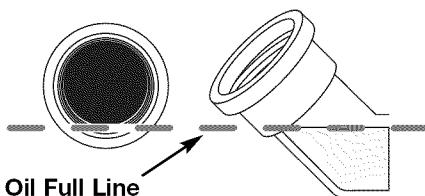

Fig. 13
3. Look into the oil fill hole (Fig. 11). If the oil level comes up to the first thread, then the oil is full (Fig. 13). If it does not, fill with oil until it does.